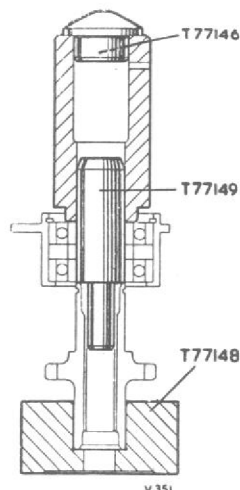

Fig. 18. Pressing the hydraulic pump drive bearing housing on to the hydraulic pump drive gear
- (6) Remove the housing from the press block and secure the bearing with a new retaining ring (Part No. 60539).
- (7) Place the hydraulic pump drive gear on press block T77148.
- (8) Position guide adapter T77149 into the bore of the gear.
- (9) Position the housing assembly, flange uppermost, over the guide adapter.
- (10) Using adapter T77146, press the housing on to the gear (fig. 18).
- (11) Remove the assembly from the press block and secure the gear with a new Seeger circlip (Part No. AGS2031-8).
- (12) Assemble the hydraulic pump drive to the oil and hydraulic pump mounting casing and secure with three new tab-washers (Part No. AGS518C) and nuts; do not lock the nuts.